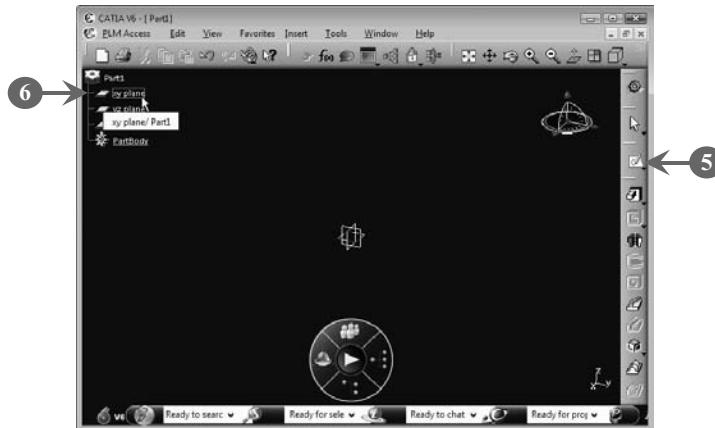

FIGURE 4.3
The first component, **Part1**, is created in the Part Design workbench (**Figure 4.3**). Now, you need to draw the sketch of the component using the Sketcher workbench. You can invoke the Sketcher workbench by first *clicking* the **Sketch** button on the **Sketcher** toolbar and then *selecting* a sketching plane from the specification tree.
5. Click the **Sketch** button on the **Sketcher** toolbar (Figure 4.3).
6. Select the **xy-plane** option in the specification tree, as shown in Figure 4.3: